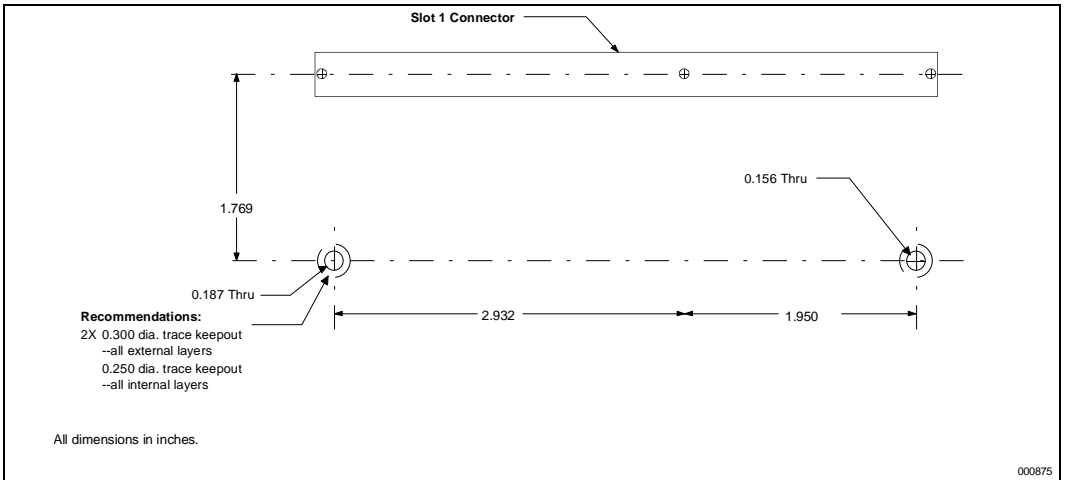
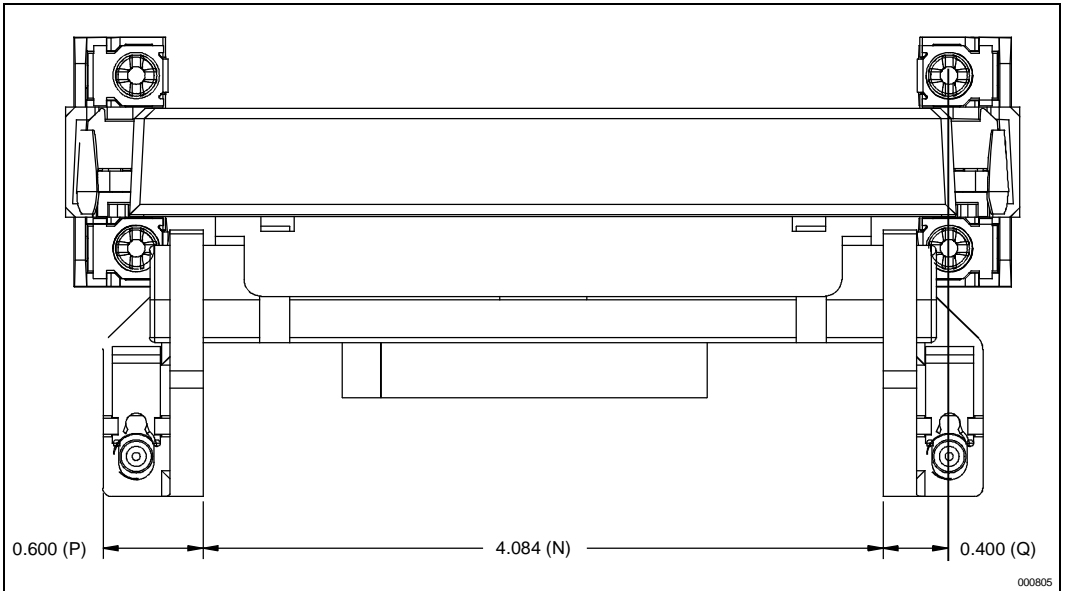

Figure 45. Heatsink Support Hole Locations and Sizes
Figure 47. Top View Space Requirements for Boxed Processor Fan/Heatsink Supports
The Boxed processor will ship with its own fan heatsink support. The support differs from supports for passive heatsinks. The Boxed processor fan/heatsink support requires heatsink support holes in the motherboard. Location and size of these holes are give in Figure 45.
1. This table applies to the dimensions noted in Figure 45 through Figure 47.